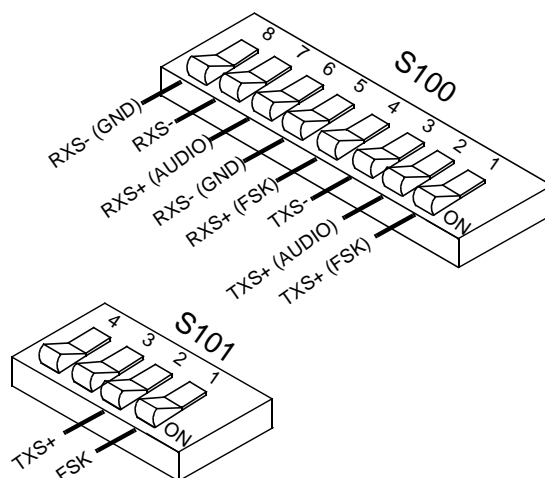

Figure 7-12 S100 SETTING
1. Set MAC S100 and S101, all Sections OFF (see Figure 7-12).
2. Inject a 1 kHz tone from a balanced 600 ohm source, at the level determined by the type of line used, into TXA+ and TXA- of J2 located on the back of the Repeater (see Figure 7-12).